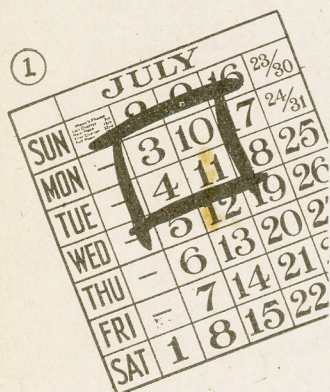

Fig. 1—Marking a block of dates
**A** CONJURER should always be up-to-date and here is, literally, a Trick With A Date. Produce a calendar pad and ask someone to turn to any month and ring round a square block of four dates, as indicated in Fig. 1. Any four can be chosen and the performer does not, of course, know which have been chosen. Yet if the spectator gives him the total of the four numbers, the conjurer immediately tells him the dates selected.